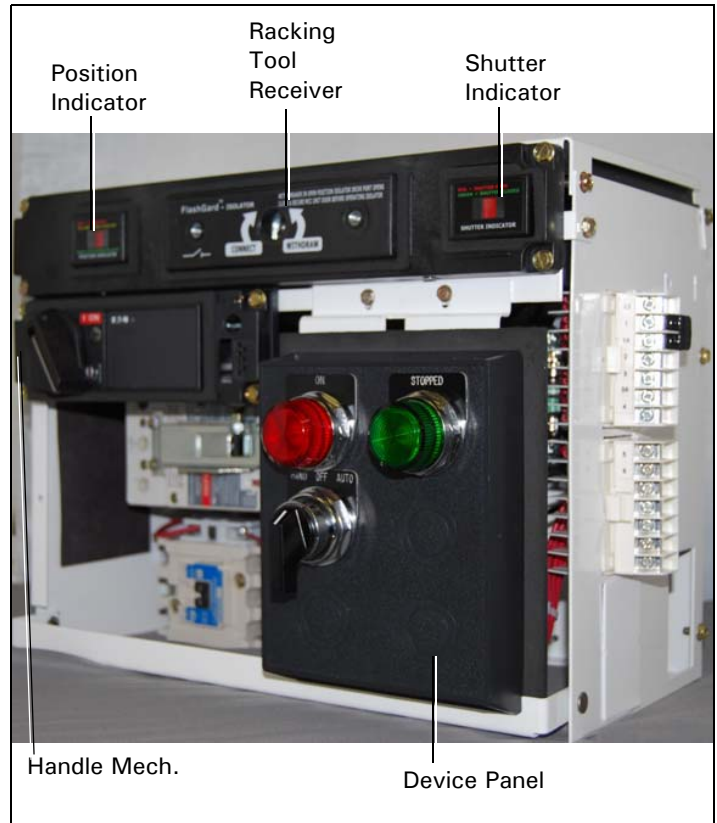

Figure 1. Freedom FlashGard® Unit Components.
1. Prior to installation of the unit, verify that the unit stabs are fully withdrawn and the internal shutters are closed. The Unit Latch at the top of the unit needs to be flush with the top of the unit to prevent interference with the divider pan when installing the unit. (Figure 1) The unit operator needs to be in the OFF position and the unit latch should be turned down so the metal tab on the left side of the unit is inside the unit. This will prevent any interference with the structure frame when installing the unit into the structure.